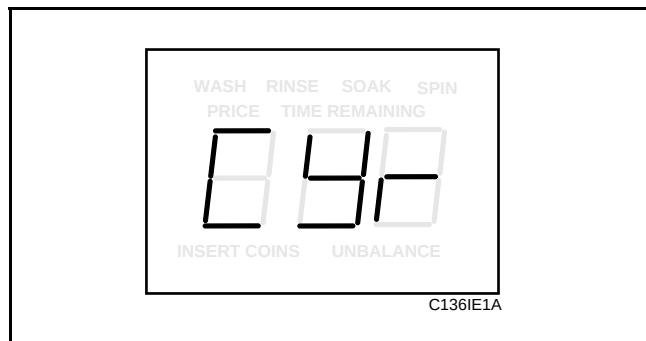

Figure 104
3. Press the DELICATES (+) pad or the COLD (-) pad to scroll through the programmable options until “CYr” appears in the VFD. See **Figure 104**.